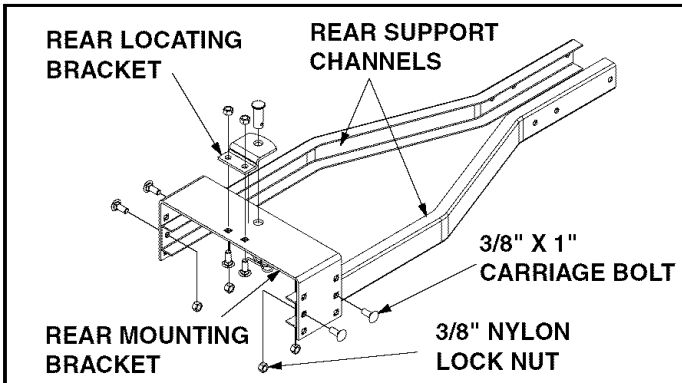

FIGURE 3
- Install the Rear Locating Bracket to the top of the Rear Mounting Bracket using two 3/8" x 1" Carriage bolts and 3/8" nylon lock nuts as shown in figure 3. **Tighten** nuts.
- Install the Rear Support Channels to the middle set of holes in the sides of the Rear Mounting Bracket using four 3/8" x 1" Carriage Bolts and 3/8" nylon lock nuts. **Finger tighten only.** See figure 3.